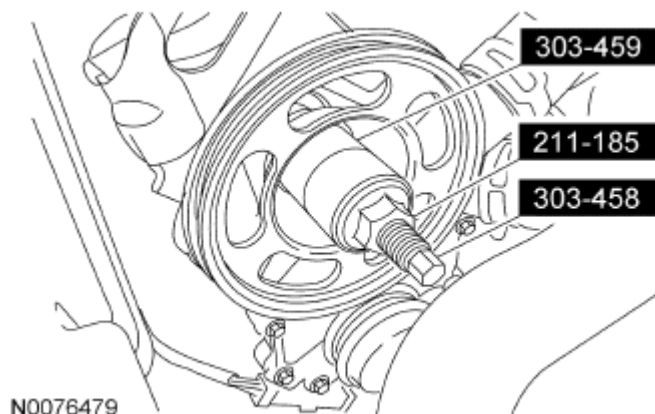

Fig. 81: Identifying Camshaft Pulley Installer, Power Steering Pump Pulley Installer And Water Pump Pulley Spacer
NOTE: Failure to use the correct special tools, assembled as shown in the Fig. 81, will result in damage to the coolant pump pulley and/or special tools.
10. Position the coolant pump pulley over the previously installed Camshaft Pulley Installer and on the end of the camshaft. Install the Camshaft Pulley Installer, Power Steering Pump Pulley Installer and the Water Pump Pulley Spacer as shown in the **Fig. 81**.